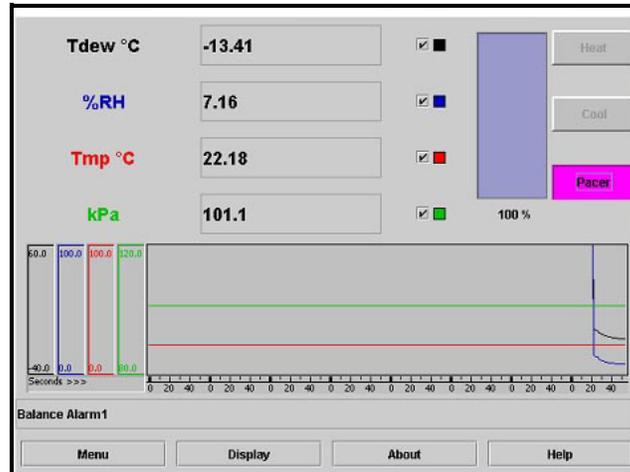

Figure 47: Display with PACER Button Activated
- From the Optica analyzer press the soft-key next to the PACER button, or, from Optica Java applet running on your PC, move your mouse pointer over the PACER button and click. The button will turn magenta, as shown in Figure 47 below.